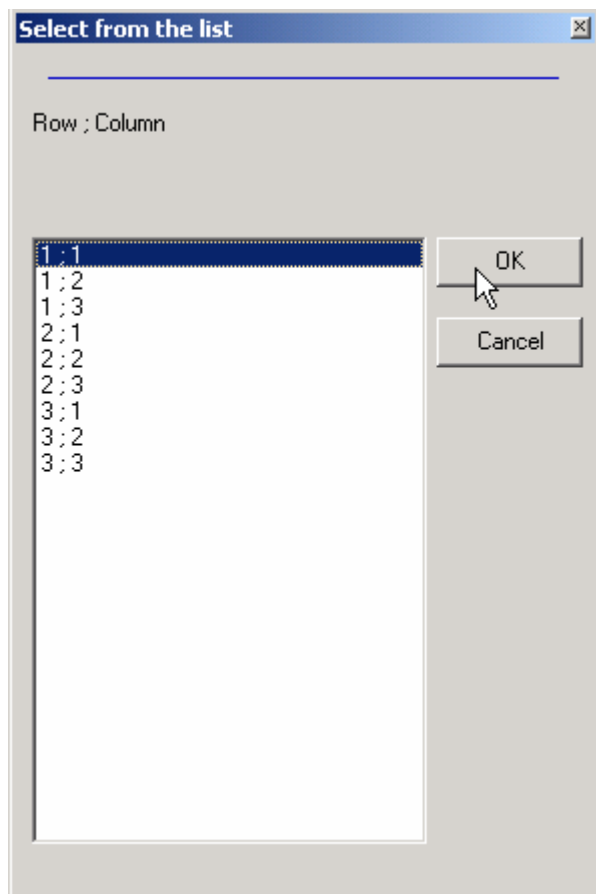

Figure 29. Select the location (Row, Column).
- Select the coordinate (Row:Column) (Figure 29)